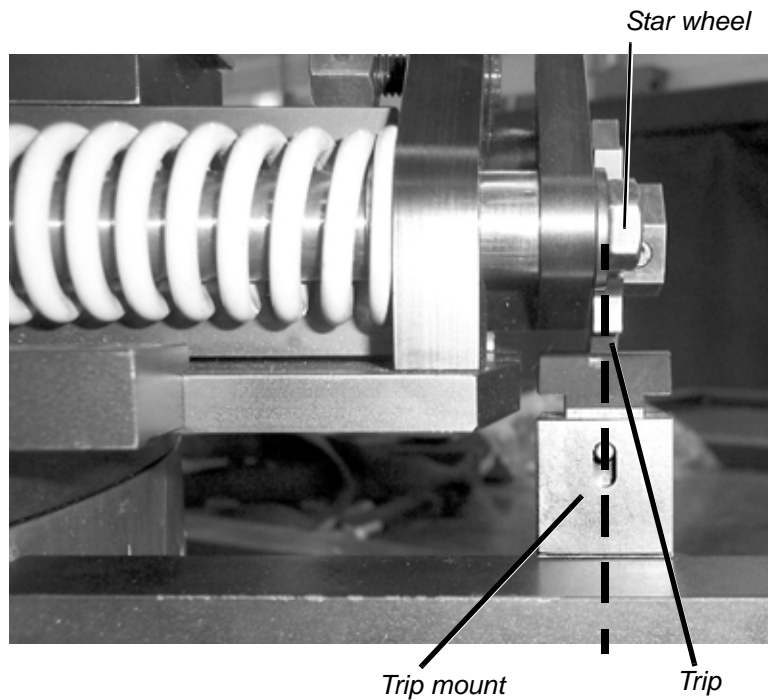

Figure 3-8. The trip mount should be positioned so that the contact points of the star wheel strike the center of the trip.
17. Position the trip mount so that the star wheel strikes the center of the trip, as shown in Figure 3-8. Tighten the position adjustment screw.